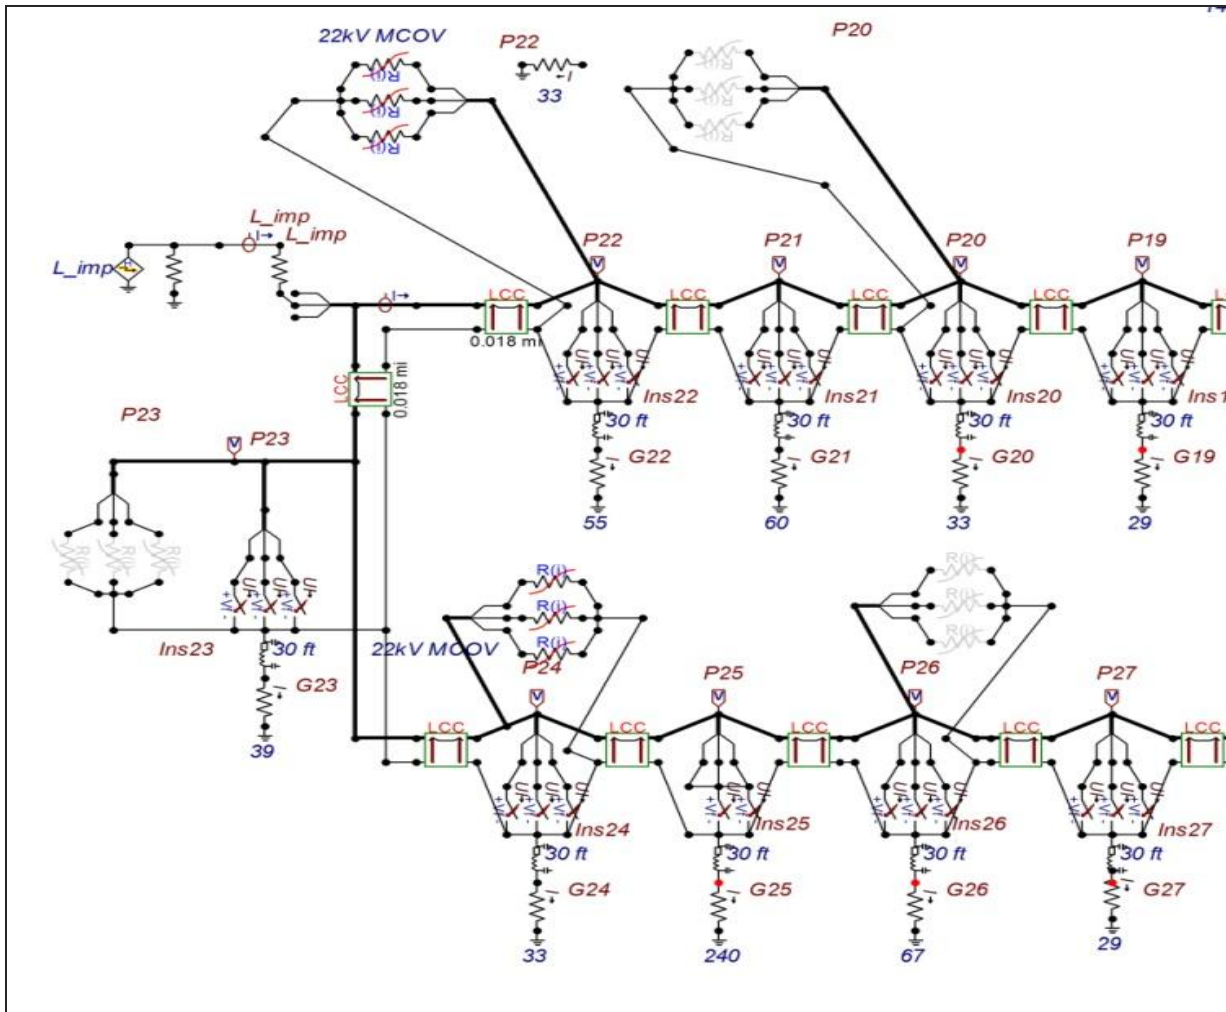

Figure 2: Typical ATP Model of a Distribution Line
The following case studies were executed using the popular transient analysis program ATP. ATP is an open-source software suite that is used throughout the world for this very type of analysis. A typical ATP circuit used in this analysis can be seen in Figure 2
A very common question in the industry, is how often should arresters be installed on a line (one without equipment) to give it protection from lightning. In North America, there is a common rule that says install 4 sets of arresters per mile or every 4 or 5 spans to improve lightning performance. This practice appears to have been around since antiquity in power systems. Let’s explore this further with the circuit as shown in Figure 2.
**Locations of measurement points can be seen in Figure 2
poles 22 and 23. Pole 23 is protected with arresters while pole 22 is not protected (see figure 2). As predicted from the earlier cases, the voltage at the top of the poles will rise to very high levels even if they flashover or have arresters installed. This is a perfect example of how an arrester protected pole does not experience a flashover but the voltage on the system rises to significant levels and moves the flashover to the unprotected pole. In this case, at 30kA strike causes flashovers occur at pole 23 and 20. For a 50kA strike to the same circuit, only poles on either side of the protected pole (22) flashover. of the poles will rise to very high levels even if they flashover or have arresters installed.